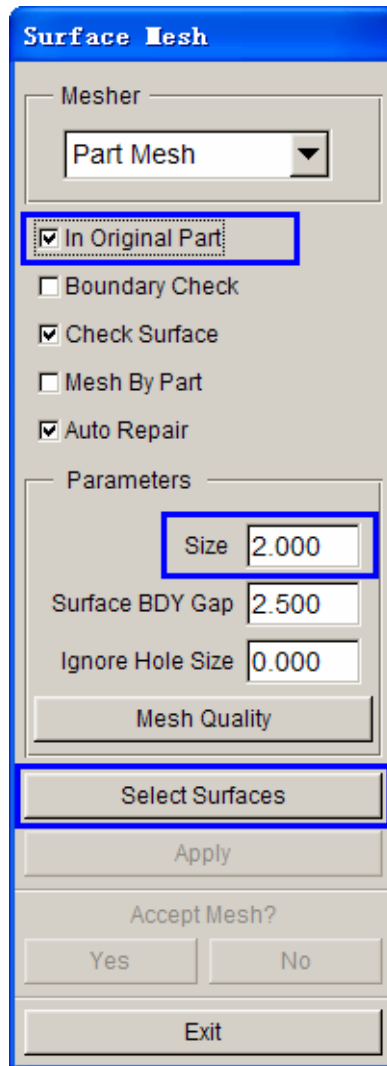

Figure 4.11: Surface Mesh dialog box
4. Select "In Original Part", change the mesh size from 10.000 into 2.000, and keep the other terms in default, as shown in the following figure 4.11.